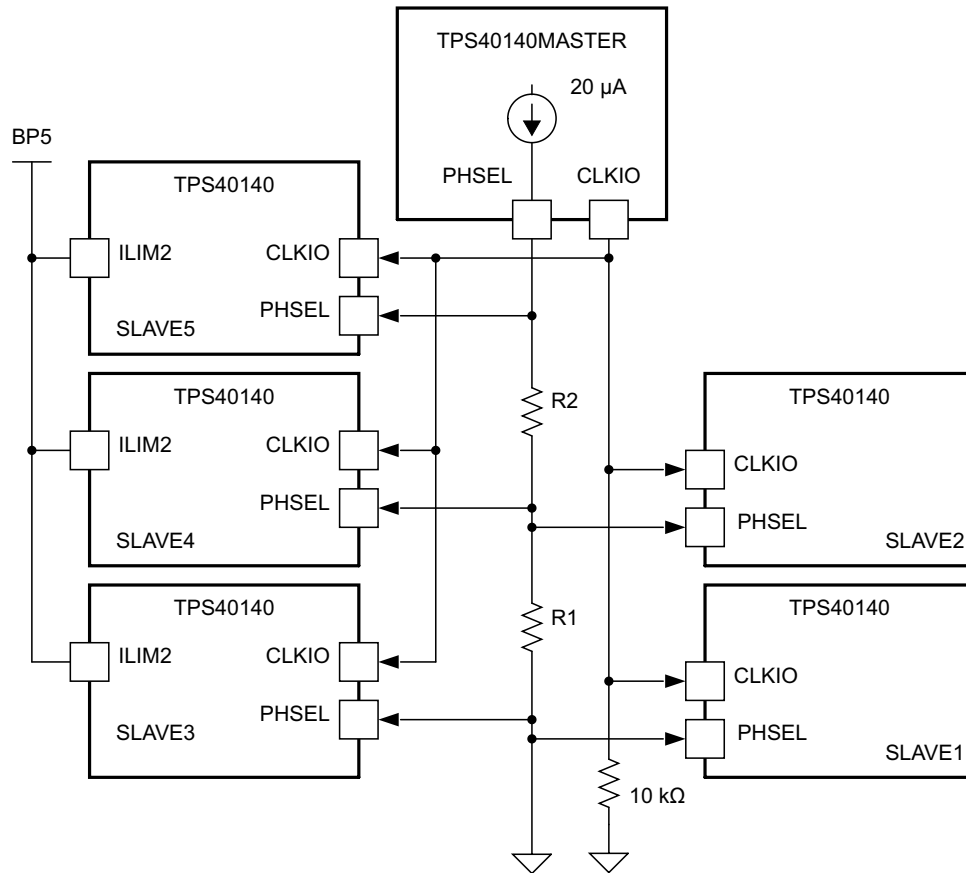
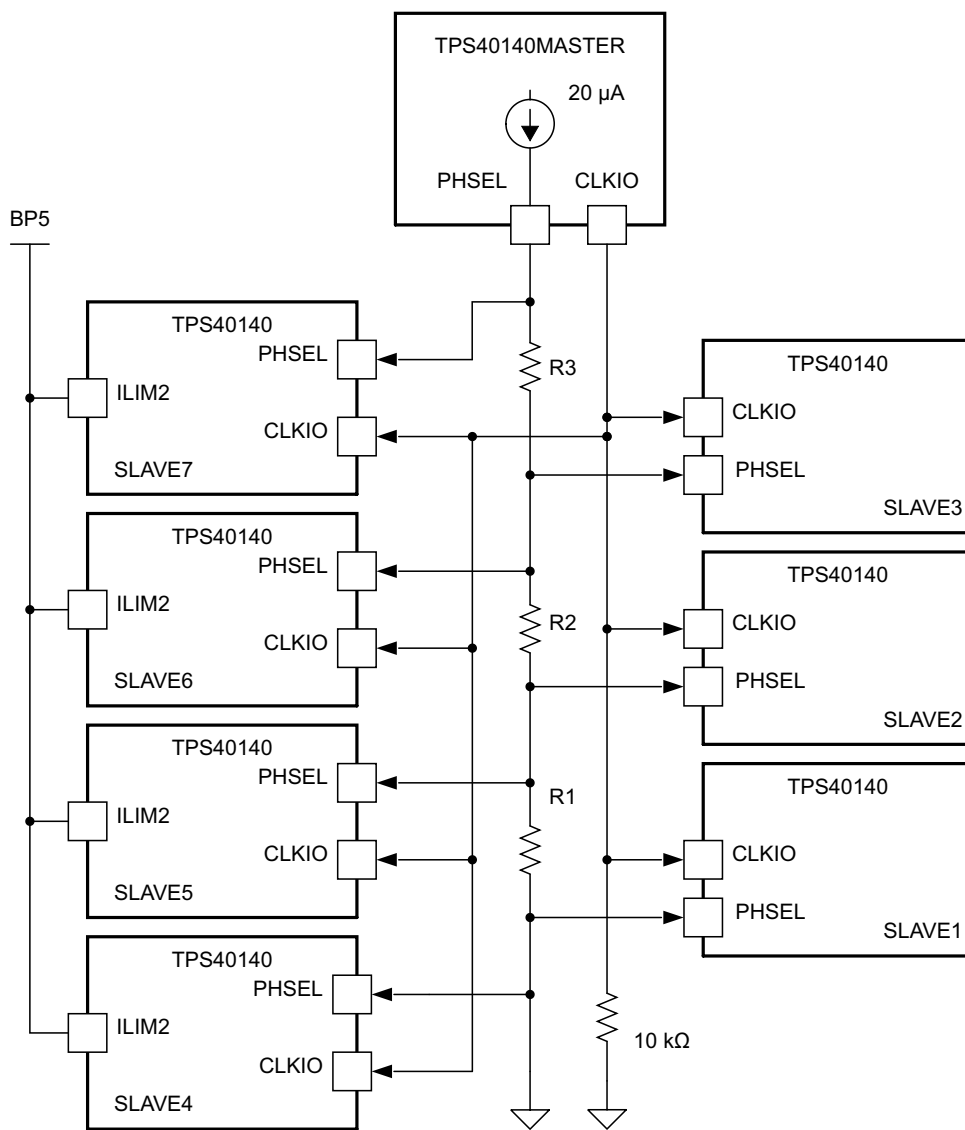
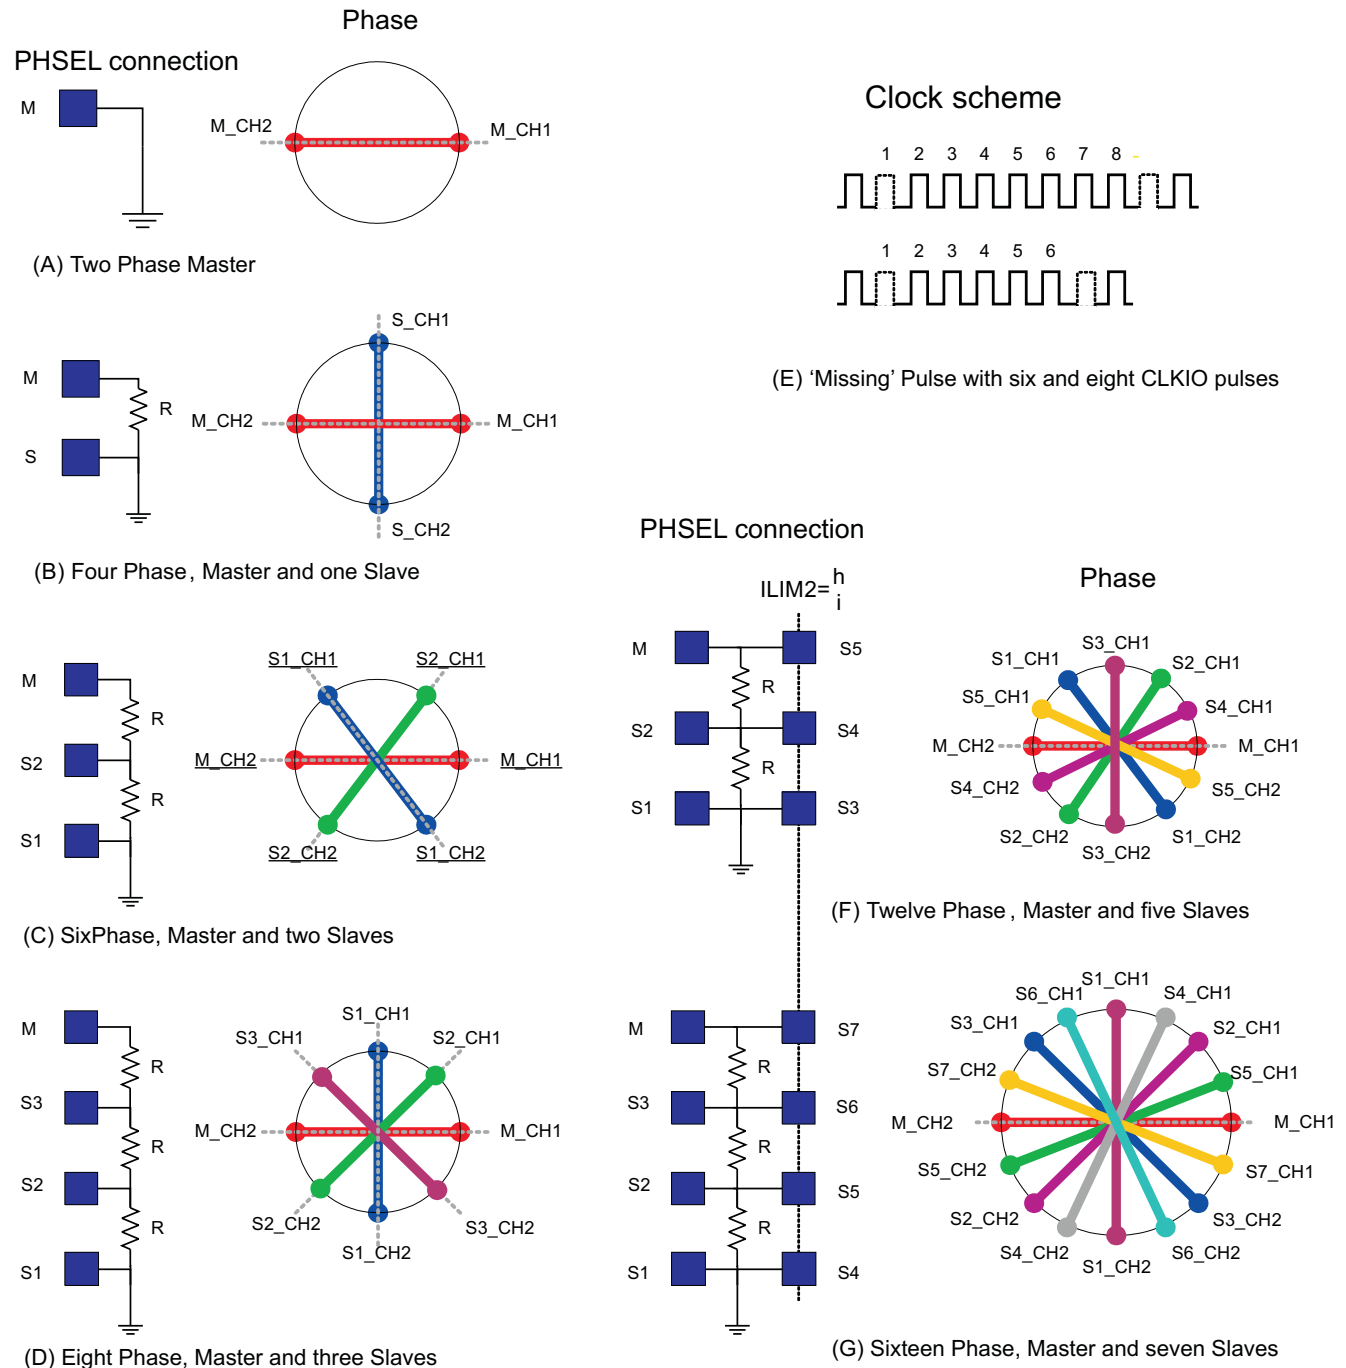

Figure 24. Master Controller and Five Slave Controllers, 12-Phases
Figure 25. Master Controller and Seven Slave Controllers, 16 Phases
Figure 26. Clock Phasing Summary
To further increase the total current capability to twelve phases, or to increase the number of outputs, five slave controllers can be added as shown in Figure 24.
If four slaves are desired, just delete one of the slaves from Figure 24. The interleaving is not perfect because there is a 30° between the master and three slaves. The deleted slave causes 60° between the two adjacent slaves. See Figure 26 for phasing details.
To further increase the total current capability to sixteen phases, or to increase the number of outputs, seven slave controllers can be added as shown in Figure 25.
In this configuration, the master senses that there are three slave controllers (due to the three resistors) and distributes an eight-phase CLKIO signal. Slave1, slave2, and slave3 are turned on at 90°, 45°, and 135° respectively as before with three slaves. However, to get sixteen phases with an eight-phase clock, both edges of the CLKIO signal are used to control the slaves. With the ILIM2 tied high on slave4, slave5, slave6, and slave7 they turn on at the rising edge of CLKIO, while the master and slave1, slave2, and slave3 turn on at the falling edge of CLKIO. If six slaves are desired, just delete one of the slaves from Figure 25. The interleaving is not perfect because there is 22.5° between the master and three slaves. The deleted slave causes 45° between the two adjacent slaves. See Figure 26 for a phasing details.
Figure 26 is a summary of the master and slave clock phasing. The master and the slaves can be selected to be a multi-phase, single output configuration and/or several independent output voltage rails, independent of the clocking.
The solid square boxes in Figure 26 represent the PHSEL pin of the master (M) controller or a numbered slave controller (S1-S7). The labels on the spokes of the wheels indicate a master Channel 1 and master Channel 2 (M_CH1 and M_CH2) and numbered slaves Channel 1 and slave Channel 2 (Sn_CH1 and Sn_CH2). The Channel 1 and Channel 2 of a given master or slave is always 180° out-of-phase.
The 3-phase system could also be configured with 1 channel of the master and 2 channels of the slave. Referring to Part (B) above, the 3 phases could be master CH1 or master CH2 and slave CH1 and slave CH2. In either of these configurations there is 90° between two of the channels and 180° between the other channel. The unused channel could be another independent output voltage whose clocking would occupy the phase not used in the 3-phase system. This philosophy can be used for any number of phases not shown in Figure 26, Clock Phasing Summary.